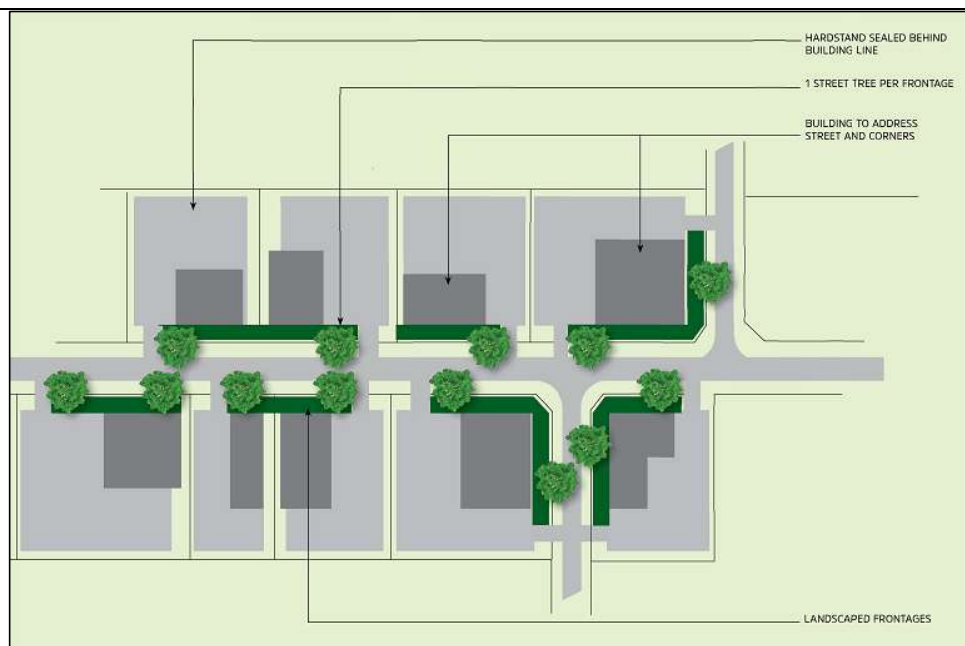

Figure 1: Typical Site Orientations
- Buildings must be positioned towards the front of the site to avoid large areas of open storage / work areas in front of the building line. (See Figure 1)